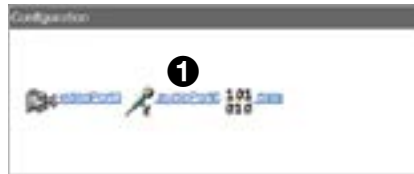

Figure 52. Device Configuration Panel
2. In the Configuration panel, click on **audioPort0** (see figure 52, ❶):